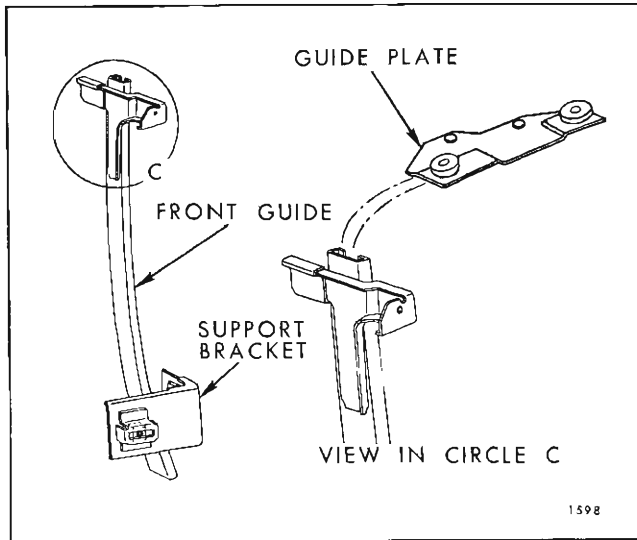

Fig. 1D74—Rear Door Front Guide and Guide Plate - 68069 Style
**IMPORTANT:** DO NOT drill into the motor housing, part of which is indicated by the dotted line illustrated in Figure 1D77. In addition, locate hole a sufficient distance from edge of sector gear to insure proper retention of sector gear to back plate.